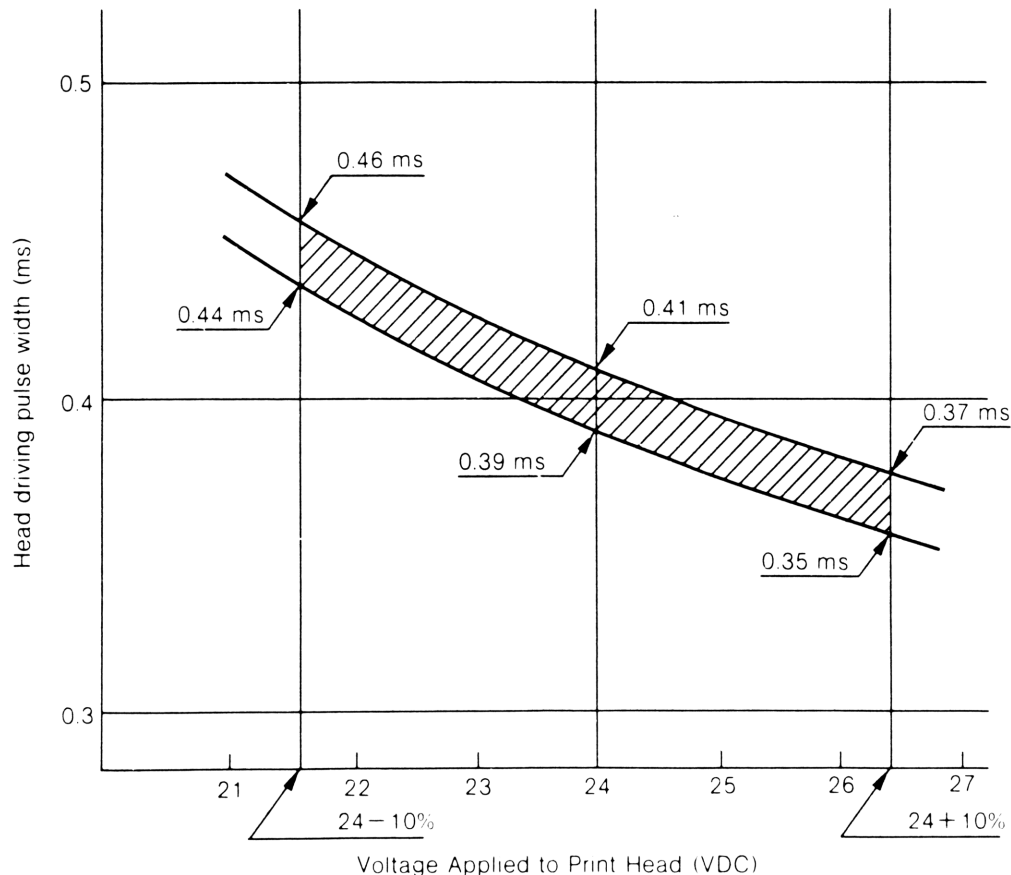

Figure 4-3. Print Head Applied Voltage versus Driving Pulse Width
To permit the constant generation of proper printing energy in the print head, the pulse width for energizing the print head is controlled according to the voltage applied to the print head. In figure 4-3, the relationship between these quantities is specified. When measuring the print head voltage at the recommended test point, exactly 1 volt must be subtracted from the reading since the measurement is not made directly at the print head. Thus, a reading of 25V would correspond to 24V on the graph, and the pulse width must be adjusted to between .39 and .41 ms. Perform the adjustment as follows:
2. Observe the pulse width at the T0 post on the driver PCA and adjust the trimmer potentiometer VR1 for the specified width, according to figure 4-3. At 24V (25V read at cathode of D1), this should be .40 ms. This adjustment can be most easily made in the self-test mode with the print head removed. The out-of paper sensor needs to be depressed while in the self-test mode.